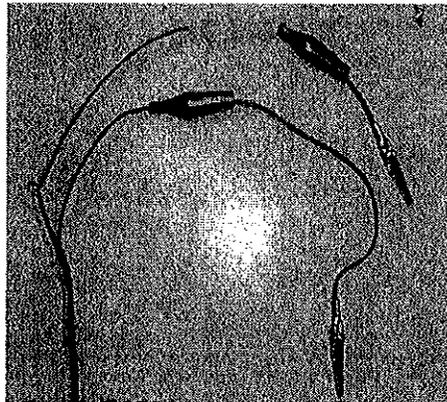

Figure 35: Battery end of the power cable.
9. On the part of the cord that you just separated, find the positive (ribbed or marked) side and cut off 13" (33cm) of the positive wire. This section will be replaced with the fuse cap wire, as shown in Figure 35 below.
14. Attach alligator clips to the fuse cap wire (+), and to the negative side of the power cord (-). Stick the wire in through the back of the clip, and up through the hole near the screw. Loosen the screw and wrap the wire around it clockwise. Tighten the screw. You can solder the connection if you want to. At this point, your power cable should look like Figure 35.